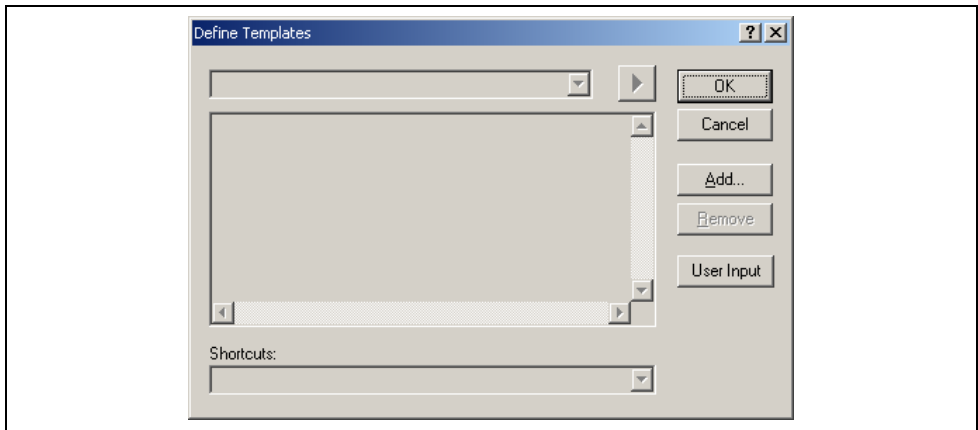

Figure 4.14: Define Template Dialog
1. Select [**Edit->Templates->Define Templates...**], select [**Templates->Define Templates...**] from the local menu, or click on the define template toolbar button (). The dialog shown in figure 4.14 will be displayed.
1. Select [**Edit->Templates->Define Templates...**], select [**Templates->Define Templates...**] from the local menu or click on the define template bookmark toolbar button (). The dialog shown in figure 4.14 will be displayed.